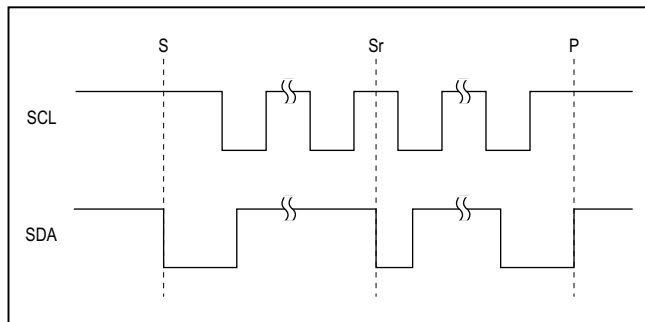

Figure 4. I2C START, STOP and REPEATED START Conditions
When writing to the MAX14720/MAX14750 using I2C, the master sends a START condition (S) followed by the MAX14720/MAX14750 I2C address. After the address, the master sends the register address of the register that is to be programmed. The master then ends communication by issuing a STOP condition (P) to relinquish control of the bus, or a REPEATED START condition (Sr) to communicate to another I2C slave. See Figure 4.